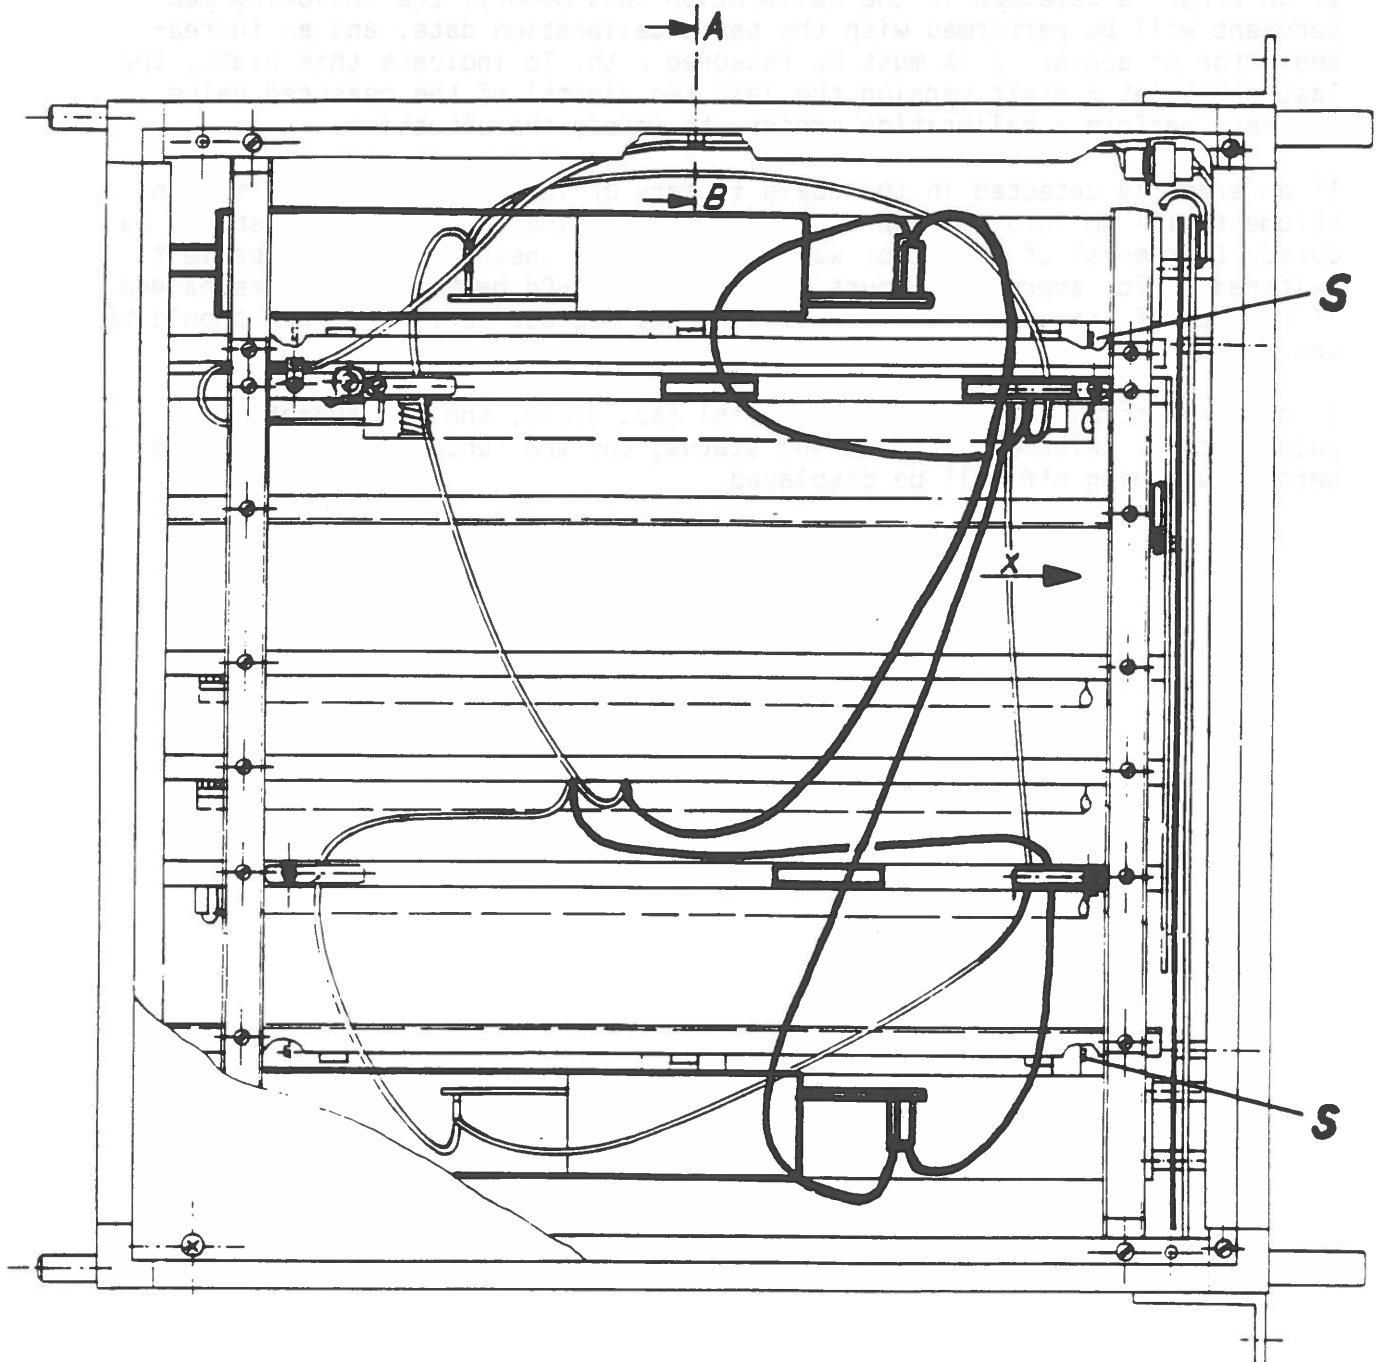

Fig. 7.1: Disassembly of front panel
4. Loosen the two screws (S); see Fig. 7.1.
7. Refasten the inserts with the screws (S).
9. Connect the two inserts as per Fig. 7.1.